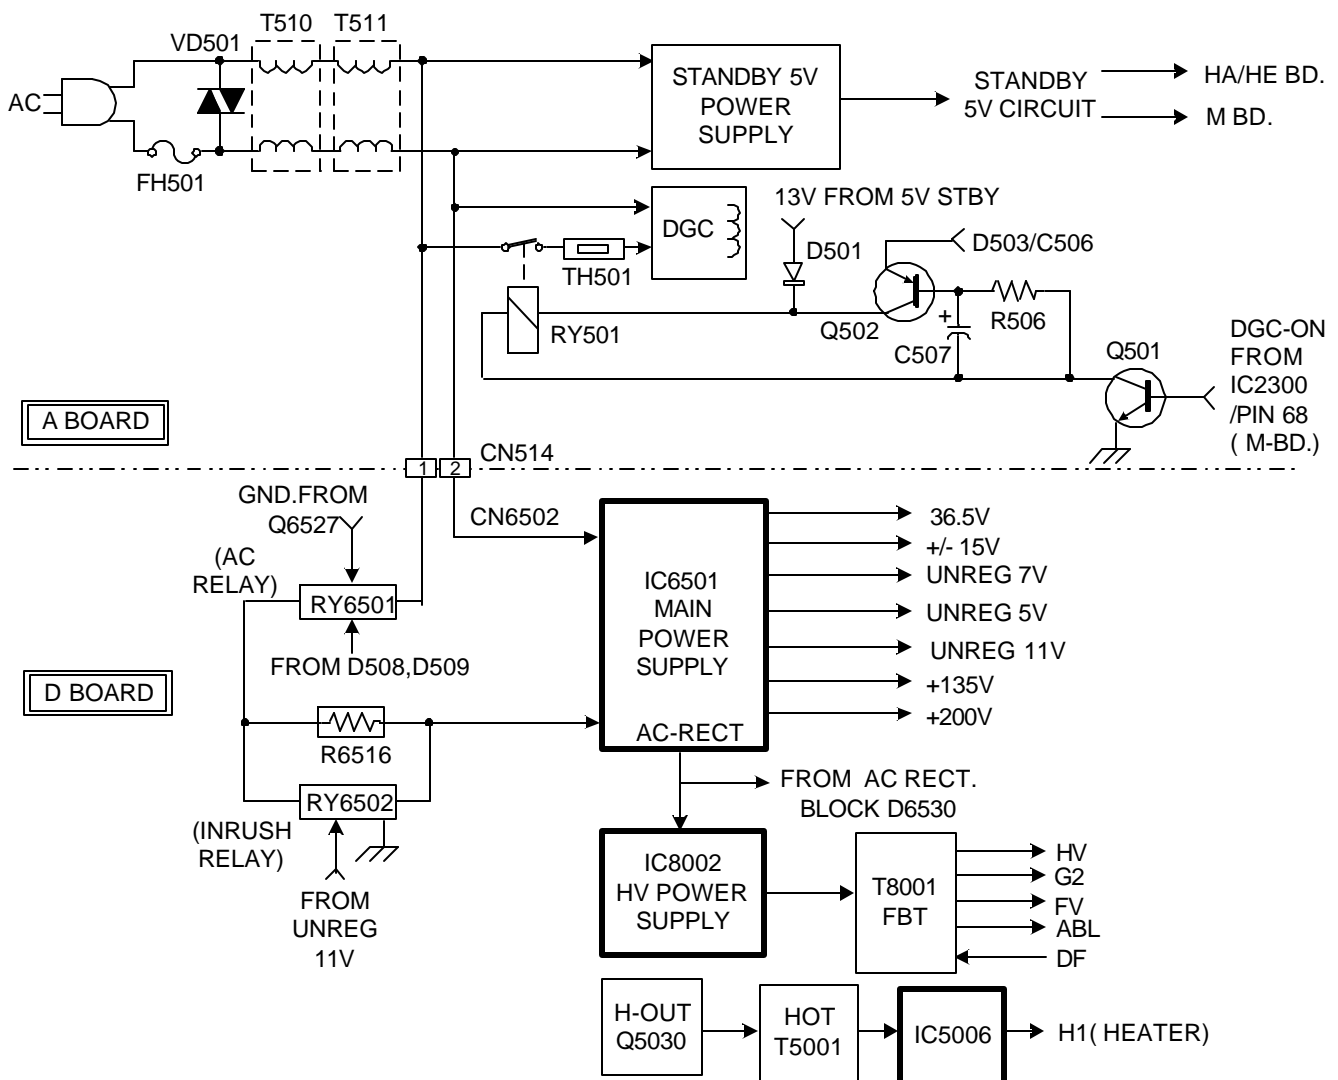

FIGURE 3-1 - DA-4 POWER SUPPLY OVERALL BLOCK
Once 120V AC power is applied to the TV set (set plugged into the AC outlet), the **Standby 5V power supply** (located on the **A-board**) is active and outputs regulated 5V (reference Figure 3-1). The STBY 5V is sent to the M-board to partially power-up system control IC2300 and is also sent to the HA/HC board to power the Remote Control Sensor (SIRCS).
The **High Voltage (HV)** on the DA-4 chassis is developed using a switch-mode power supply identical to the one found in the Main Converter power supply except for the use of the Flyback (FB) T8001 as the output transformer (reference Figure 3-1). The HV power supply is located on the D-board. The HV power supply is activated simultaneously with the Main Converter power supply. AC power is fed to the HV power supply from the AC-RECT block (D6530), which also feeds the Main Converter power supply. The HV Converter output then drives the FB transformer, which outputs the following voltages:
- High Voltage (HV)
- Focus Voltage (FV)
The **Degauss Circuit** (reference Figure 3-1) will be activated after IC2300 (M-board) receives an ON command from either the ON/OFF button or the remote control, and after one of the following events have occurred: